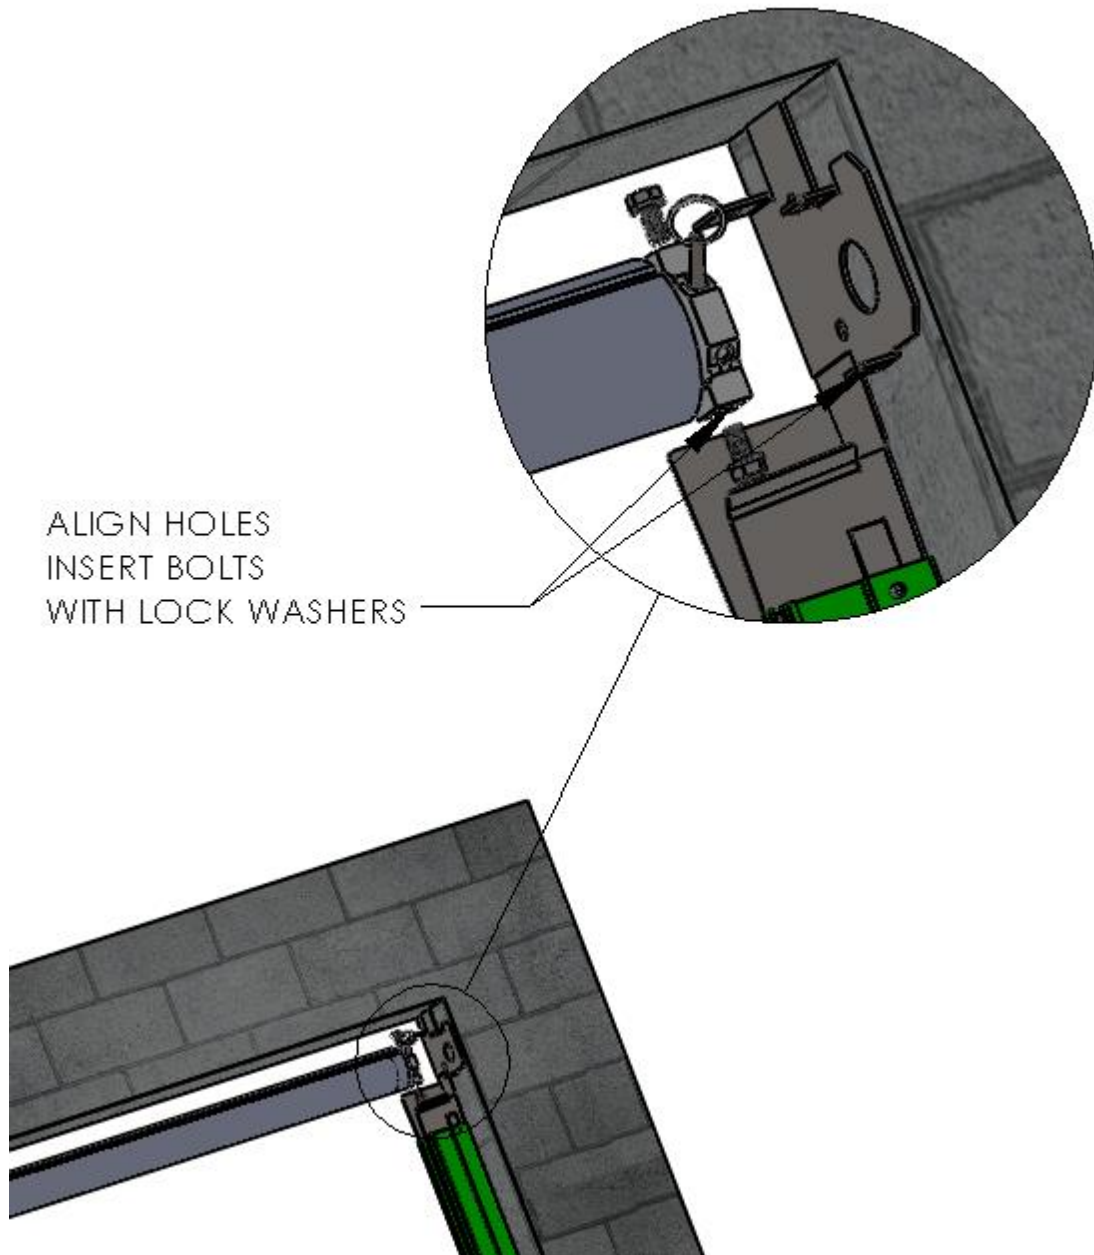

Figure 7 INSTALL R.H. SIDE OF HEADER ASSEMBLY
2. At the right side, push the Header Assembly toward the Idler side to compress (spring loaded) Idler Shaft, and insert the Nylon Block, oriented vertically, into Wall Mounting Bracket and install the bolts and washers to secure the Block to the Wall Mounting Bracket. (Figure 7 INSTALL R.H. SIDE OF HEADER ASSEMBLY)